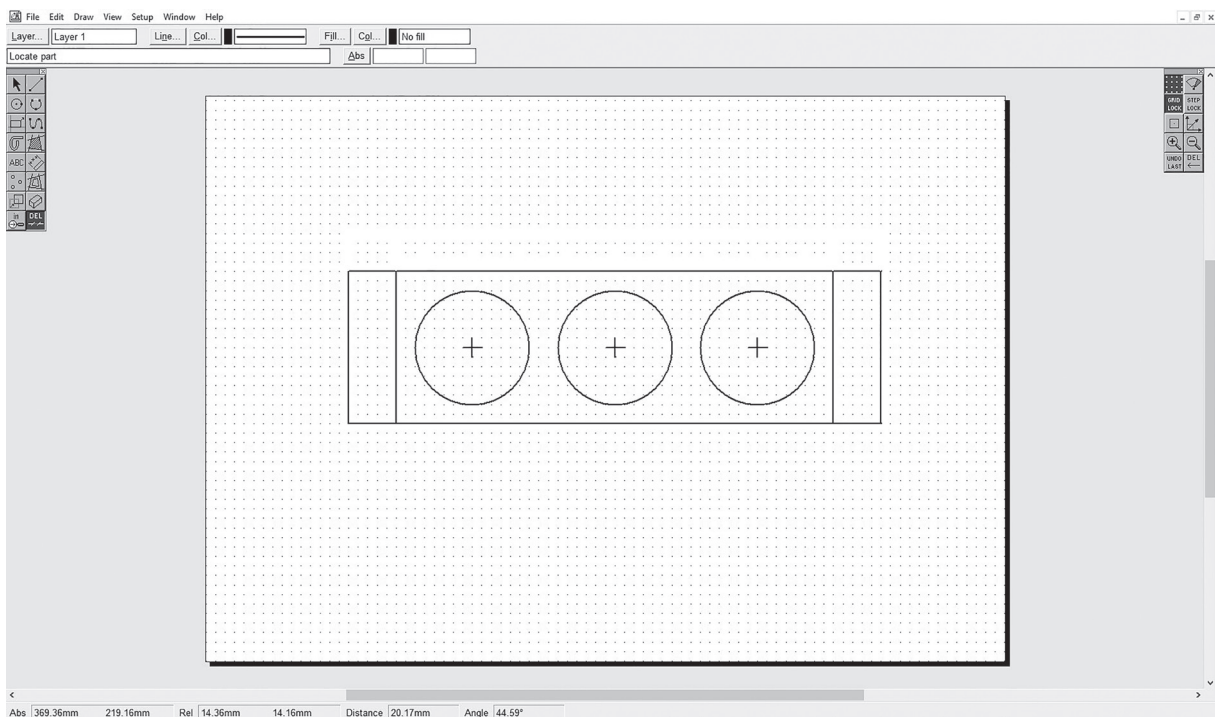

Fig. 13.2
- (a) Fig. 13.2 shows a screenshot of the CAD drawing of the development (net) of the palette.